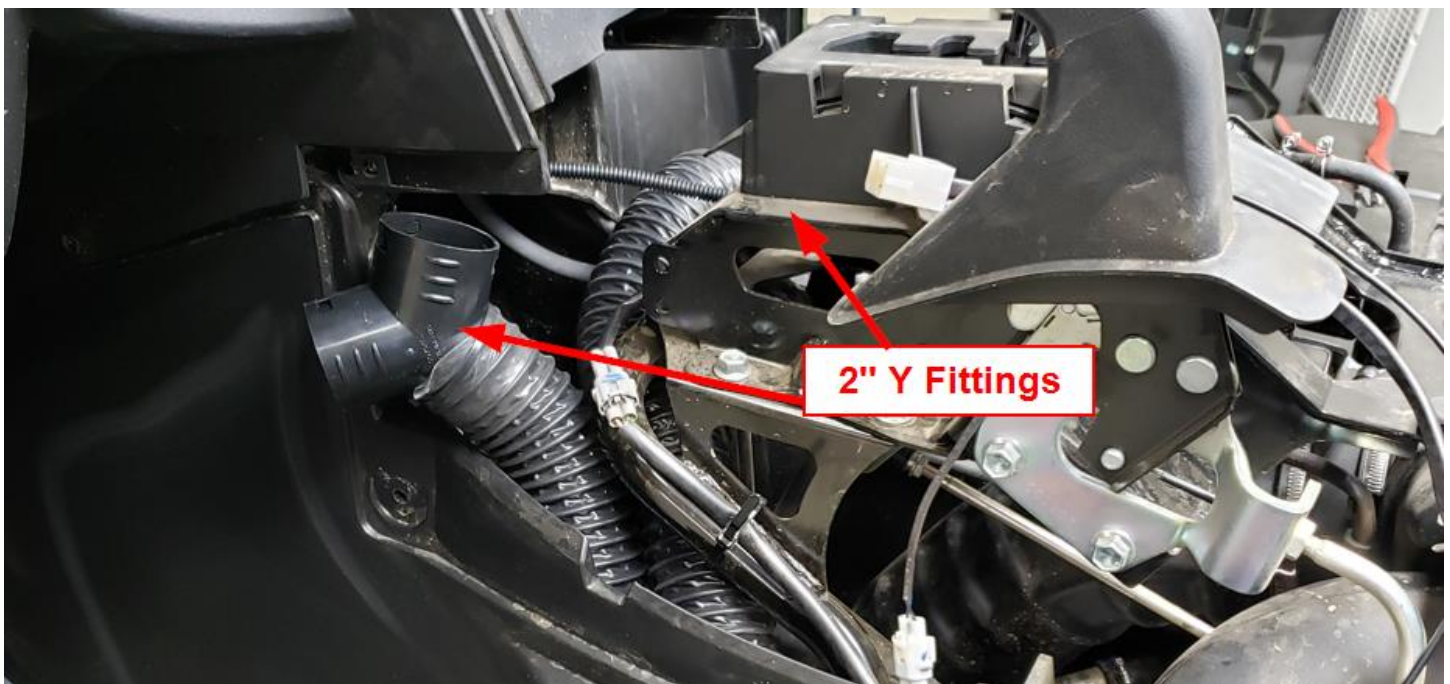

Figure 21
- d. Attach 2" Y Fittings to each hose in the center tunnel and secure using a zip tie as shown in Figure 21.